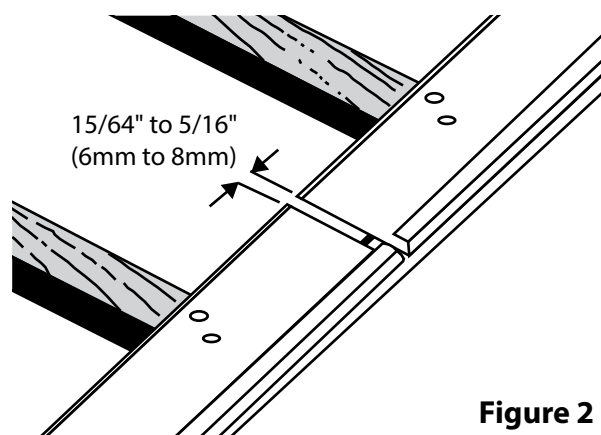

Figure 2
4. Place the next section of Dry Verge into position leaving an expansion gap of between $15/64"$ to $5/16"$ (6mm and 8mm) (as shown in Figure 2).